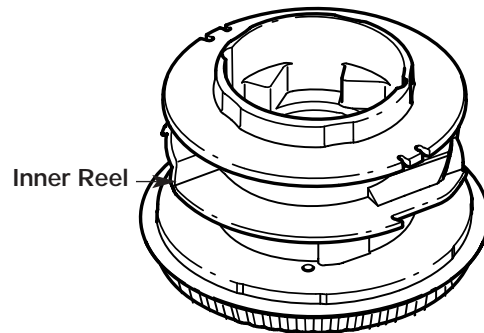

Figure 24
4. Remove any existing line from the inner reel before cleaning. Remove any debris or grass from the knob, spring, inner reel and foam seal. Wash the inner reel with warm soapy water. See Figure 24.